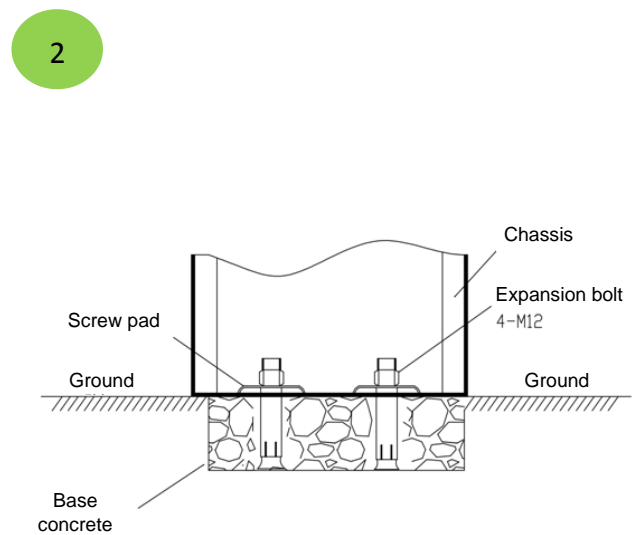

Figure 2-4B
6. Put pads and use a wrench to tighten nuts, as shown in Figure 2-4B.